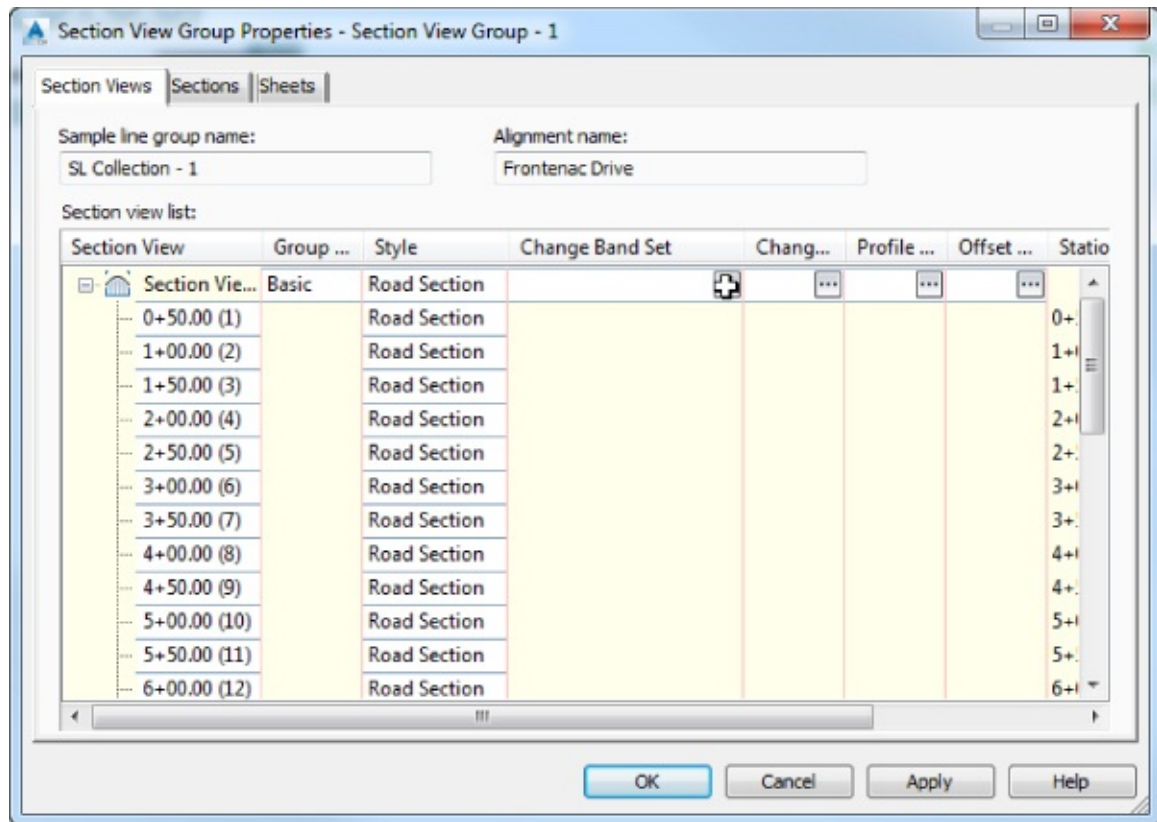

Figure 19.66 Changing the band set in use for all section views
- Click the ellipsis in the Change Band Set column, as shown in Figure 19.66. You may need to widen the column to view the full titles.